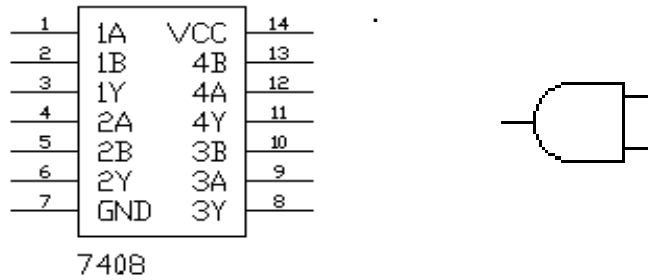

Figure 6.1
1. Figure 6.1 shows the pin layout for the 7408 IC which contains four AND logic gates.